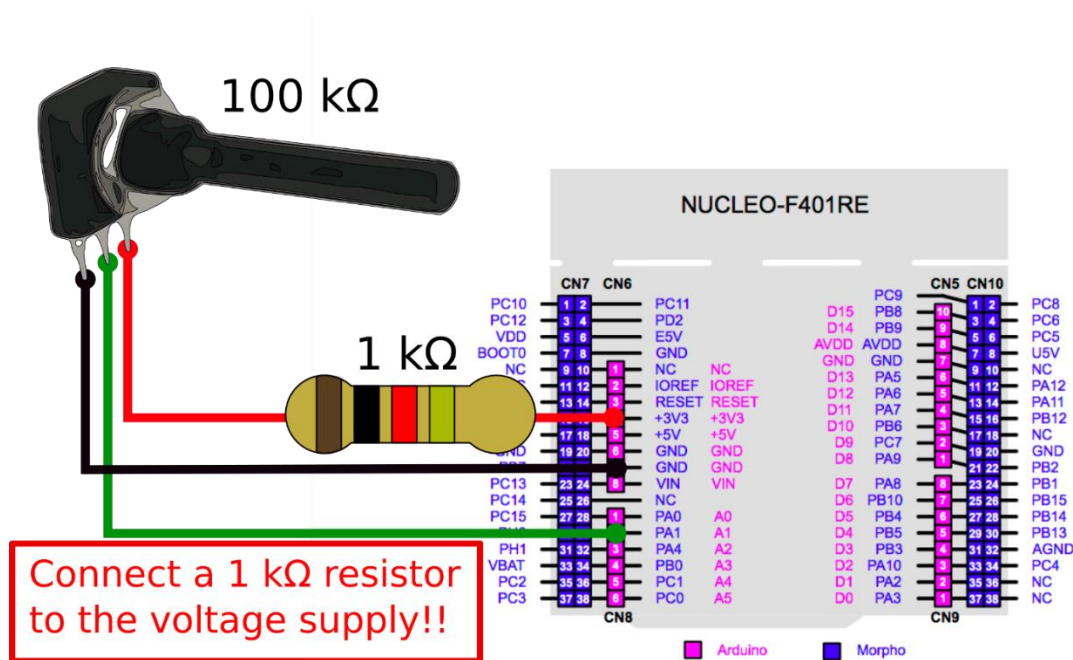

Figure 1: Connecting a potentiometer to the Nucleo board.
7. Use wires, a breadboard and a resistor to connect a discrete potentiometer to analog input of the Nucleo board. You have to use the ground and the supply voltage available on the NUCLEO board. See image in Figure 1.